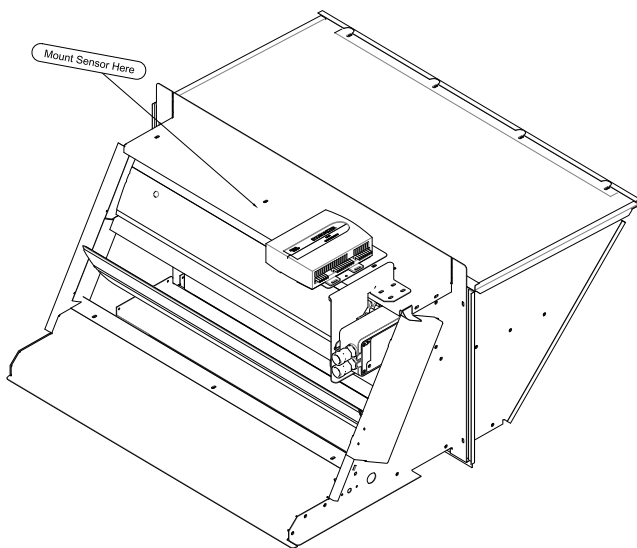

FIGURE 4 - 3-12.5 TON HUMIDITY SENSOR LOCATION
8. Mount the sensor along the top side of the economizer partition as shown in Figures 4 -7.